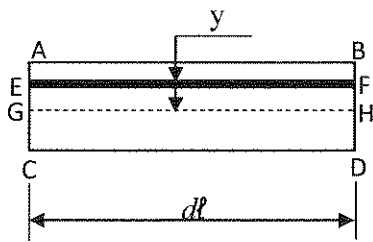
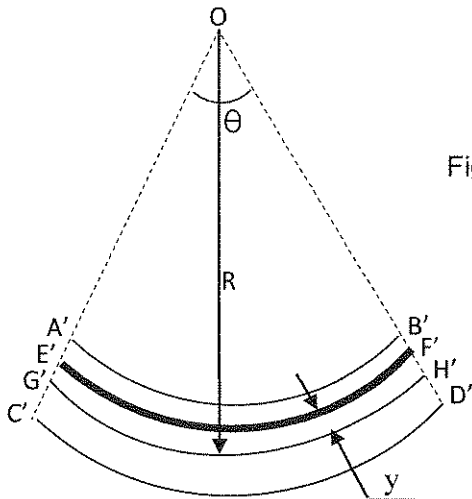

Figure 4
Figure 5
a) With reference to Figure 4, consider a part length of a beam $d\ell$ before subjected to a bending moment (BM). y is the distance of an element EF to the neutral axis GH. As it is subjected to bending it takes up a shape of an arc with the center O, and subtends an angle θ and R being the radius of curvature as shown in Figure 5. Prove (i.e. derive) that $\sigma/y = E/R$, where σ - bending stress and E - elasticity or Young's Modulus of the material.